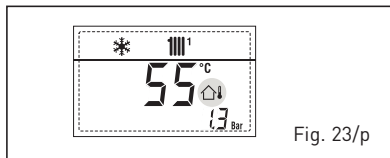

Fig. 23/p
**- SAFETY THERMOSTAT INTERVENTION FIRST MIXED ZONE "ALL 20" (fig. 23/q)**